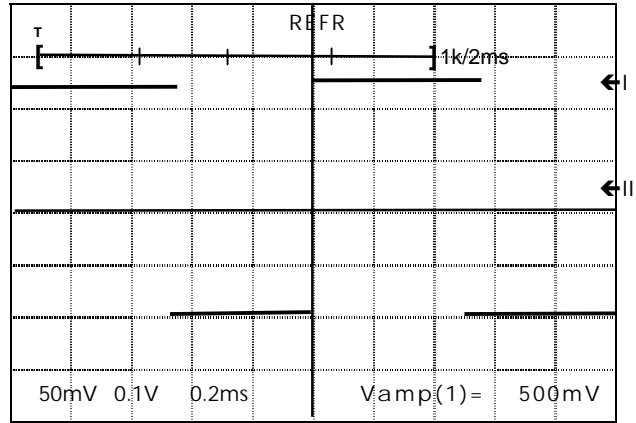

Figure 38 : Acquisition of the calibration signal and automatic measurement of amplitude
- Run automatic amplitude measurement (figure 38, page 56) :
- press on the MEAS key (44) ;
- press twice under MORE (39) to display the menu with the amplitude measurement, Vamp.
- press under Vamp (41).
Examination of a TV signal (figure 38)